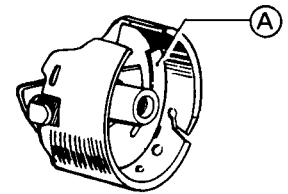

Fig. 31
- (2) Use the bobbin case which has idle running prevention spring (A) at the bottom as shown in Fig. 31.